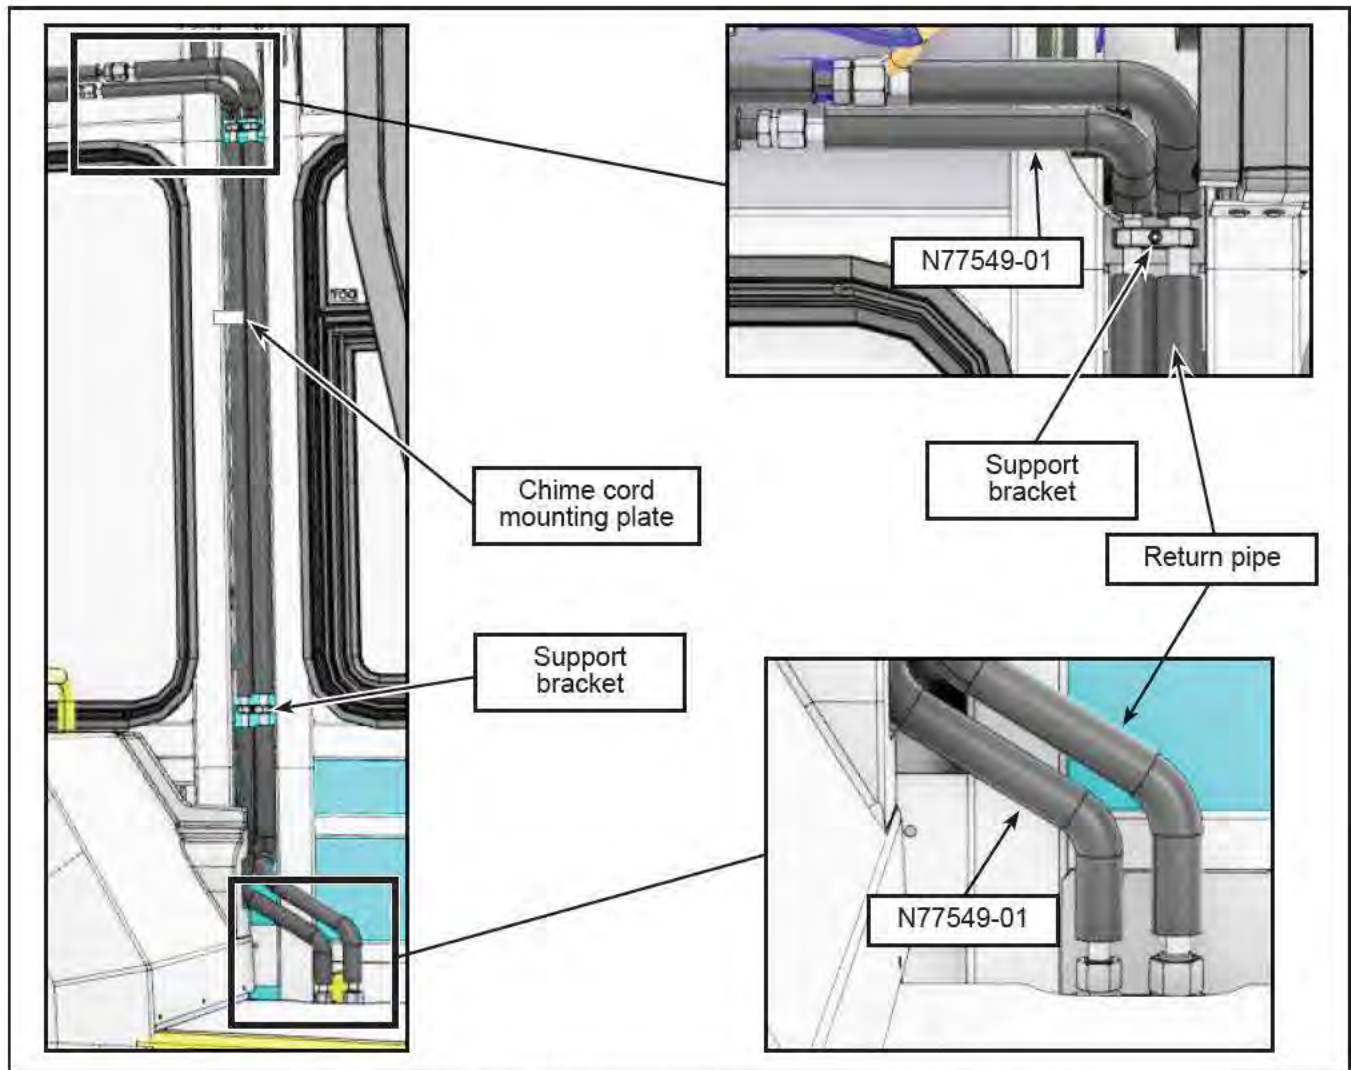

Figure 11 - Hydraulic Pipe N77549-01 (Components Omitted for Clarity)
- 1.19. Locate hydraulic pipe N77549-01 (Figure 11).
- 1.21. In order to remove the hydraulic pipe N77549-01, it is necessary to first remove the return hydraulic pipe located next to it because of the presence of the chime cord mounting plate (Figure 11).